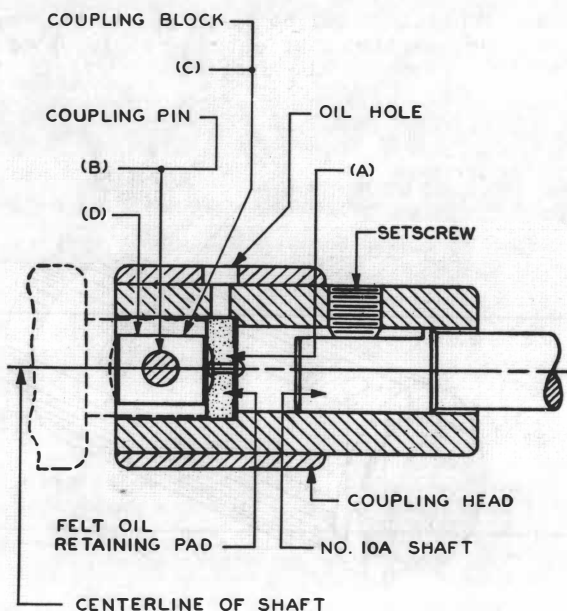

Fig. 20 - No. 10A Shaft Coupling
(b) Fig. 20(A) - The felt oil retaining pads shall be saturated with KS-6438 oil.
Bearing Surfaces of the Coupling Pin - Fig. 20(B)
Coupling Blocks - Fig. 20(C)
Slots of Coupling Head - Fig. 20(D)